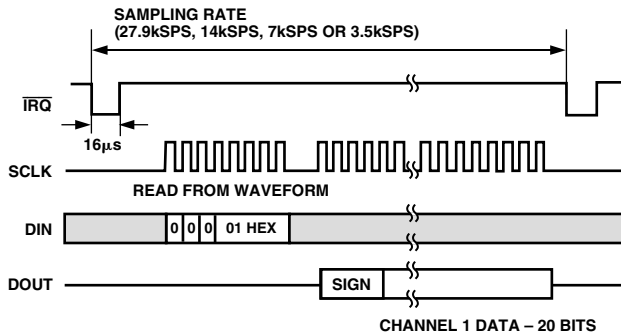
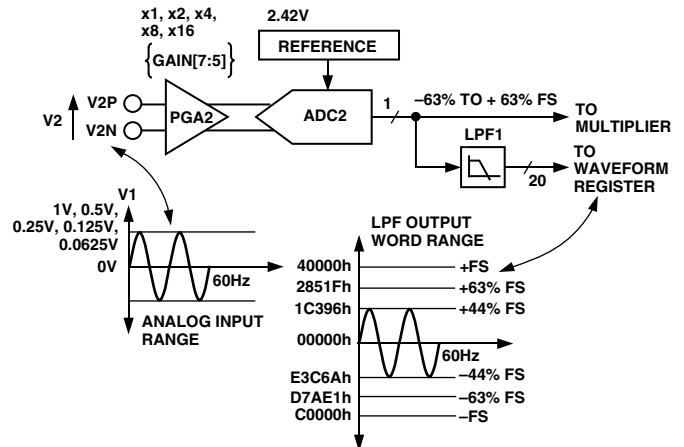

Figure 19. Waveform Sampling Channel 1
Figure 21. ADC and Signal Processing in Channel 2
Figure 21 also shows an analog low-pass filter (RC) on the input to the modulator. This filter is present to prevent aliasing. Aliasing is an artifact of all sampled systems.
When in waveform sample mode, one of four output sample rates may be chosen by using Bits 11 and 12 of the Mode register (WAVSEL1, 0). The output sample rate may be 27.9 kSPS, 14 kSPS, 7 kSPS or 3.5 kSPS—see Mode Register section. The interrupt request output \overline{IRQ} signals a new sample availability by going active low. The timing is shown in Figure 19. The 20-bit waveform samples are transferred from the ADE7756 one byte (8 bits) at a time, with the most significant byte shifted out first. The 20-bit data word is right-justified and sign extended to 24 bits (three bytes)—see Serial Interface section.
Note that LPF1 does not affect the power calculation. The signal processing chain in Channel 2 is illustrated in Figure 21. Unlike Channel 1, Channel 2 has only one analog input range (1 V differential). However, like Channel 1, Channel 2 does have a PGA with gain selections of 1, 2, 4, 8, and 16. For energy measurement, the output of the ADC is passed directly to the multiplier and is not filtered. An HPF is not required to remove any dc offset since it is only required to remove the offset from one channel to eliminate errors due to offsets in the power calculation. When in waveform sample mode, one of four output sample rates can be chosen by using Bits 11 and 12 of the Mode register. The available output sample rates are 27.9 kSPS, 14 kSPS, 7 kSPS or 3.5 kSPS—see Mode Register section. The interrupt request output IRQ signals a new sample availability by going active low. The timing is the same as that for Channel 1 and is shown in Figure 19.
The Active Power signal can be read from the Waveform register by setting MODE[14:13] = 0,0 and setting the WSMP bit (Bit 3) in the Interrupt Enable register to 1. Like the Channel 1 and Channel 2 waveform sampling modes, the waveform data is available at sample rates of 27.9 kSPS, 14 kSPS, 7 kSPS or 3.5 kSPS—see Figure 19.